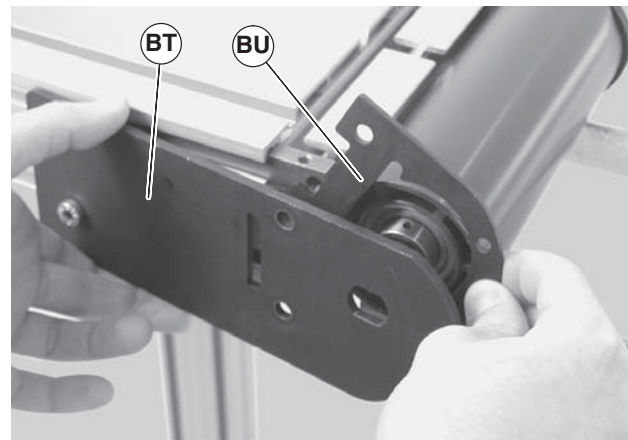

Figure 49
3. Pull back the outer headplate (Figure 49, item BT) and remove the inner spacer (BU).